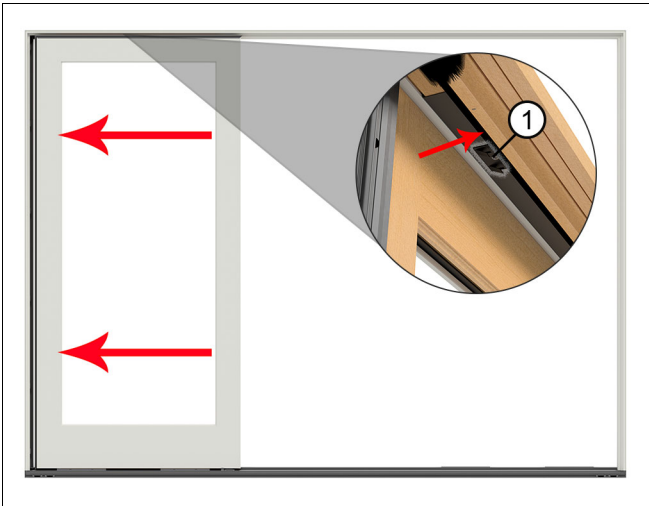

Figure 14
4. Slide the panel over to the side jamb and then push the top in until it contacts the wood parting stop. See Figure 14. Clips at the head jamb will hold the panel in place and aid in alignment.